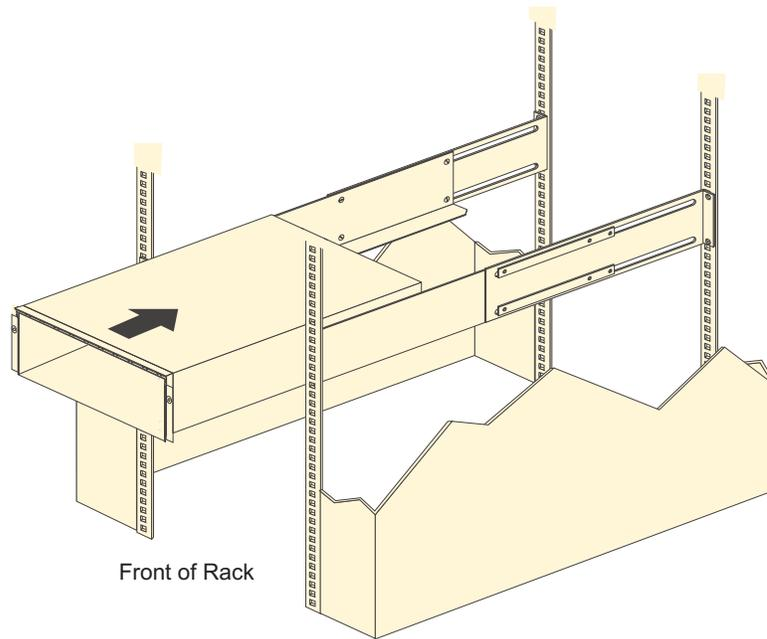

Figure 17. Installing the FAST EXP100
- b. With help from another person, place the back of the expansion unit on the support rails. Slide the unit into the rack, as shown in Figure 17 on page 41.